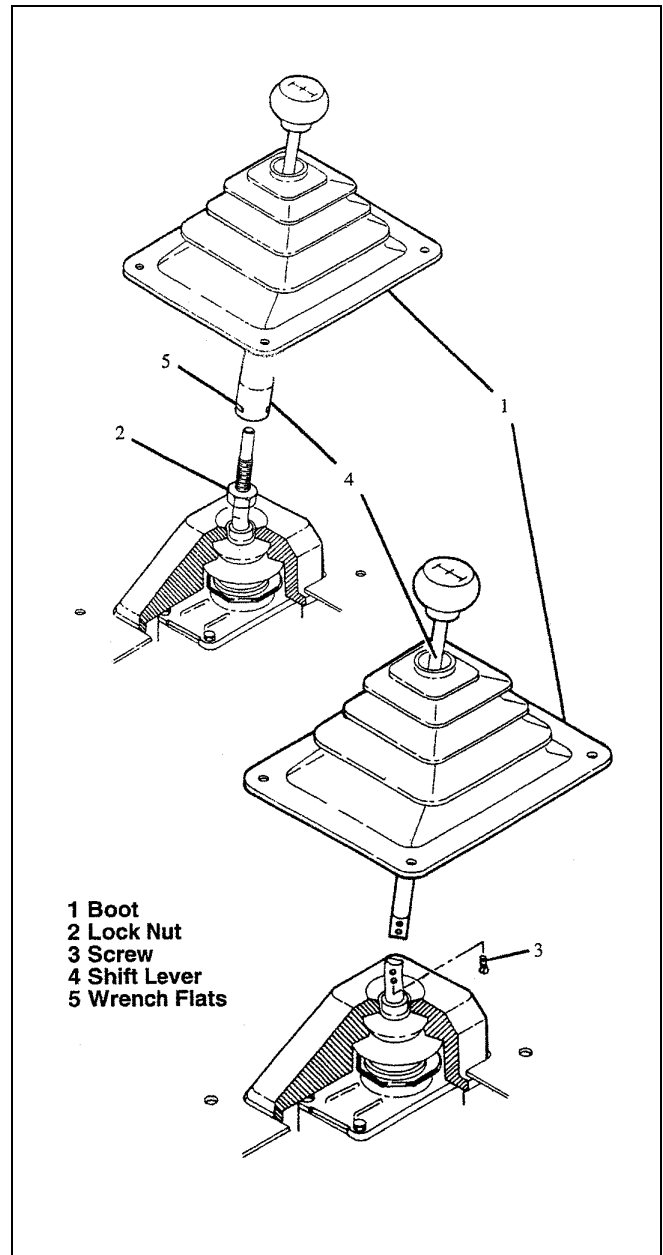

Figure 1-1. Shift Lever
- d. Remove shift lever (see figure 1-1):
1. Detach bottom of boot (1) so that it can be raised to provide access to lower end of shift lever. Boot attachment methods may vary from that shown.
2. If shift lever is threaded on, loosen lock nut (2), then remove shift lever (4) using wrench on flats (5) provided.
3. If shift lever is attached with screws (3), then remove screws (3) and shift lever (4).
- b. Install shift lever (see figure 1-1).
1. If shift lever is attached with screws, align screw holes in shift lever (4) and transmission control lever and install screws.
2. If shift lever is threaded on, screw shift lever (4) onto transmission control lever. Hold in desired position with wrench across flats and tighten nut up against shift lever (4) to 34 lb. Ft. (47 N.m).
3. Reattach bottom of boot (1).